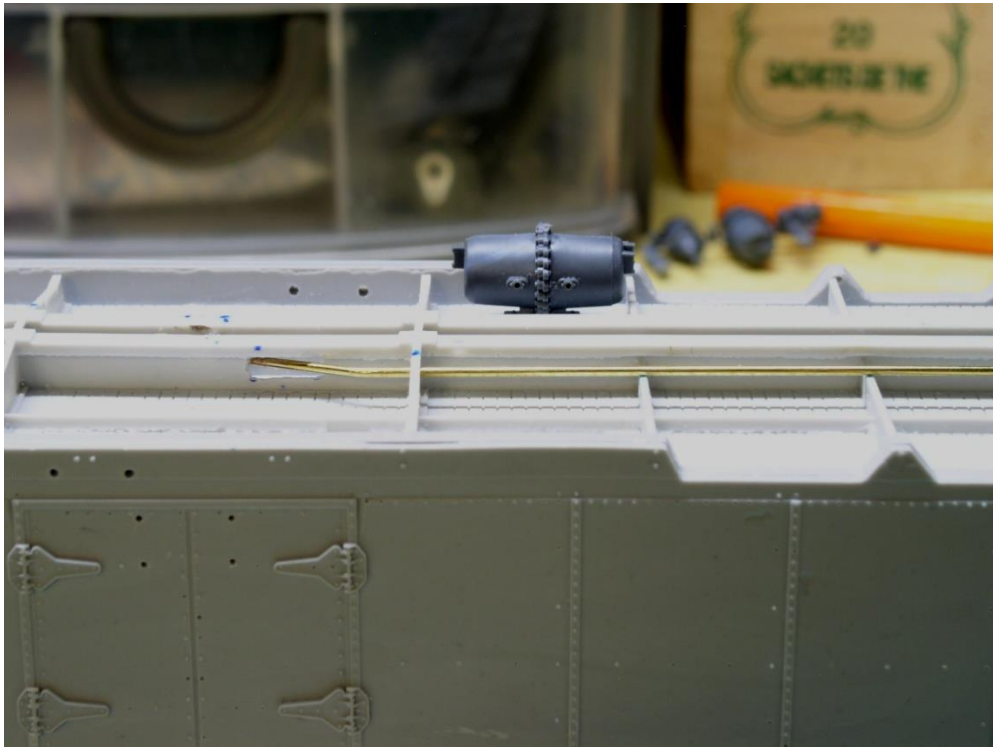

Figure U8
8. Attach the reservoir with the Emergency half towards the Centre Sill and the Auxiliary half towards the edge of the car. According to CNR plan 8H-20493-H, the Emergency has two lugs and the Auxiliary only one. The Grandt Line sheet has this reversed. See Figure U8